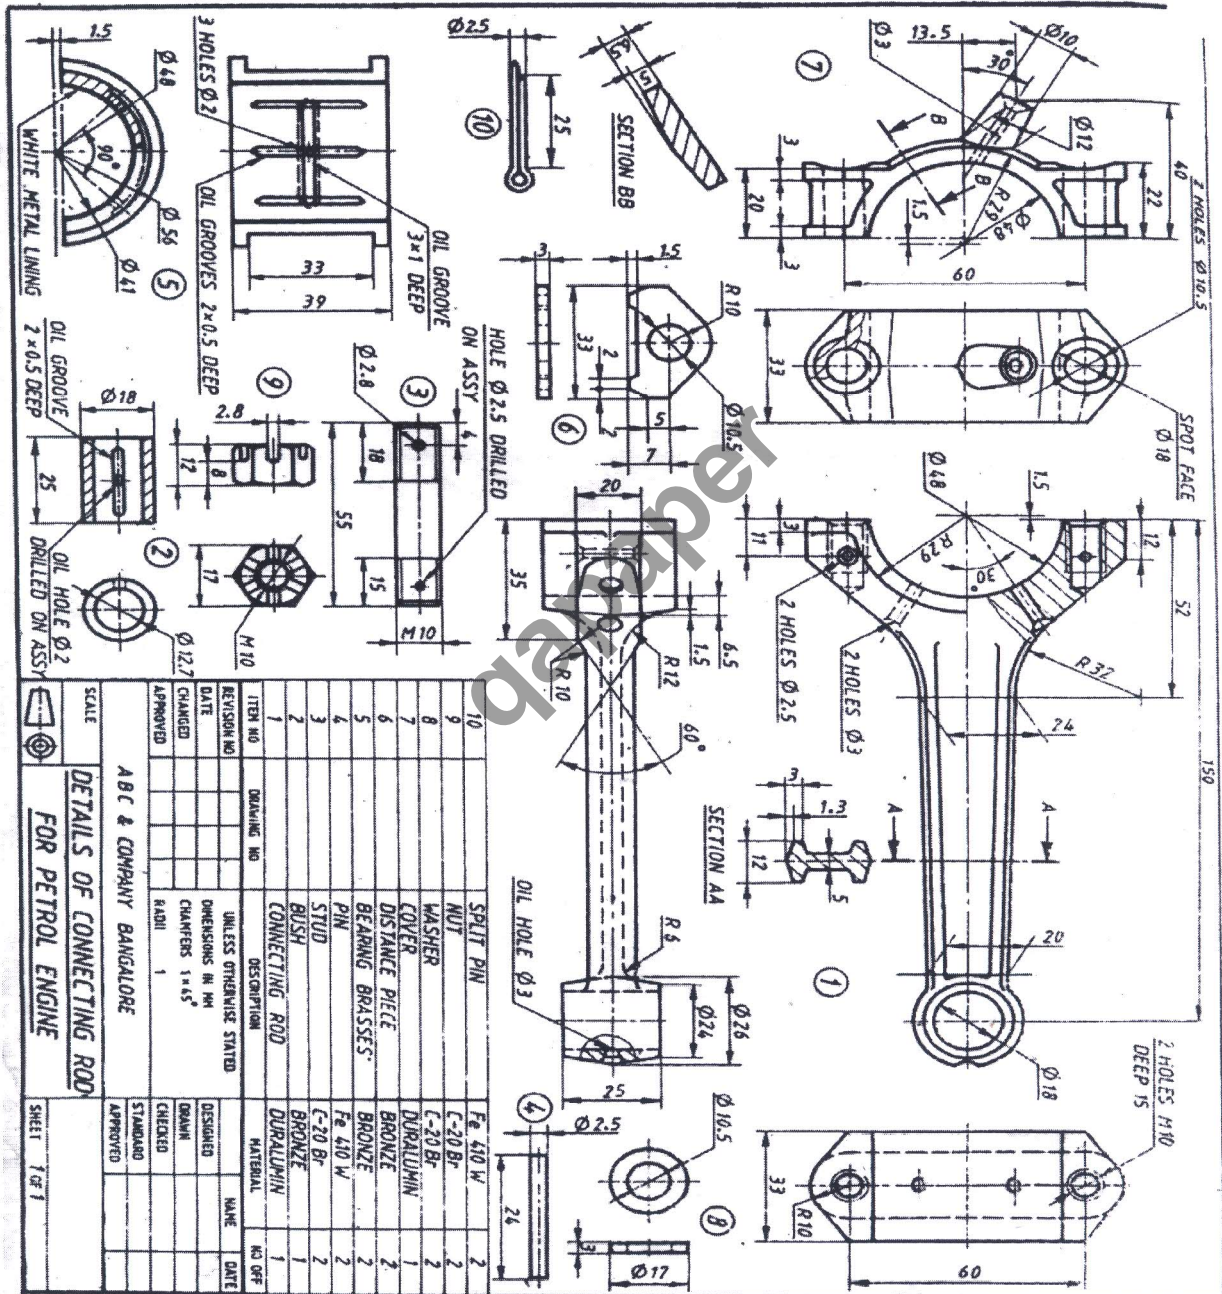

Figure 2
6) Figure 2. Shows the details of an I.C. Engine Connecting Rod. Assemble the parts and draw the following views. Dimension the drawings.